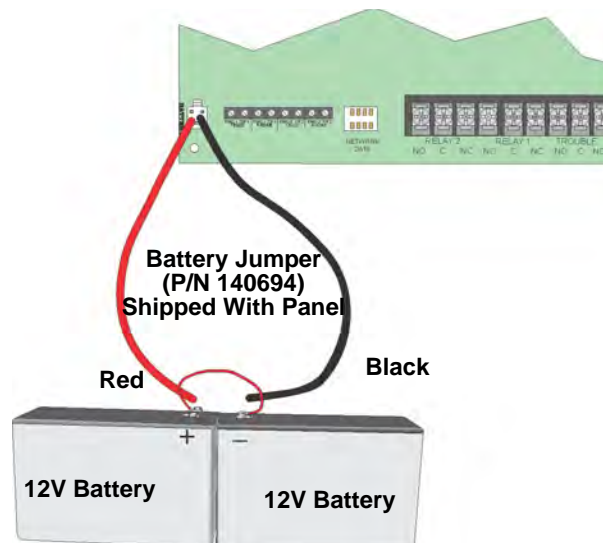

Figure 4.4 Battery Connection
1. Mount the accessory cabinet. See Figure 4.4 for the four cabinet mounting holes.